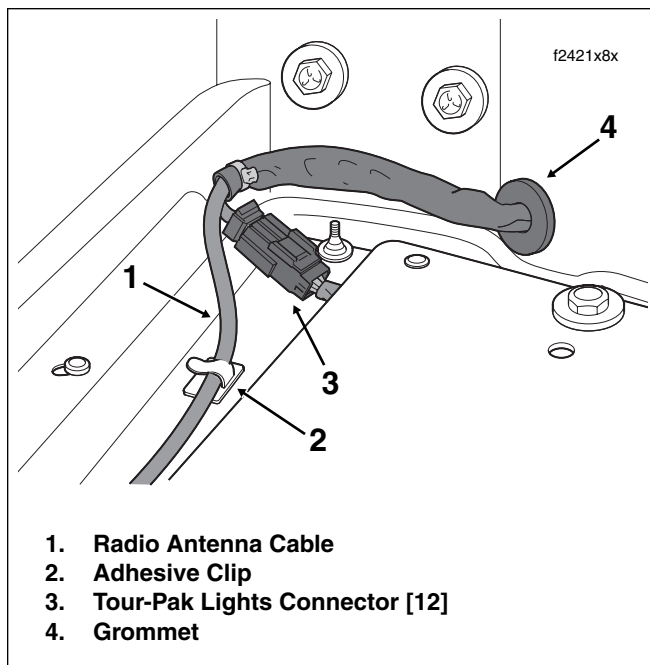

Figure 2-144. Disconnect Tour-Pak Lights Connector
3. Disconnect Tour-Pak lights connector [12], 3-place Multilock. See Figure 2-144.
7. Connect Tour-pak lights connector [12], 3-place Multilock. See Figure 2-144.
4. Disconnect Tour-Pak lights connector [12], 3-place Multilock. See Figure 2-144.
12. Connect Tour-pak lights connector [12], 3-place Multilock. See Figure 2-144.